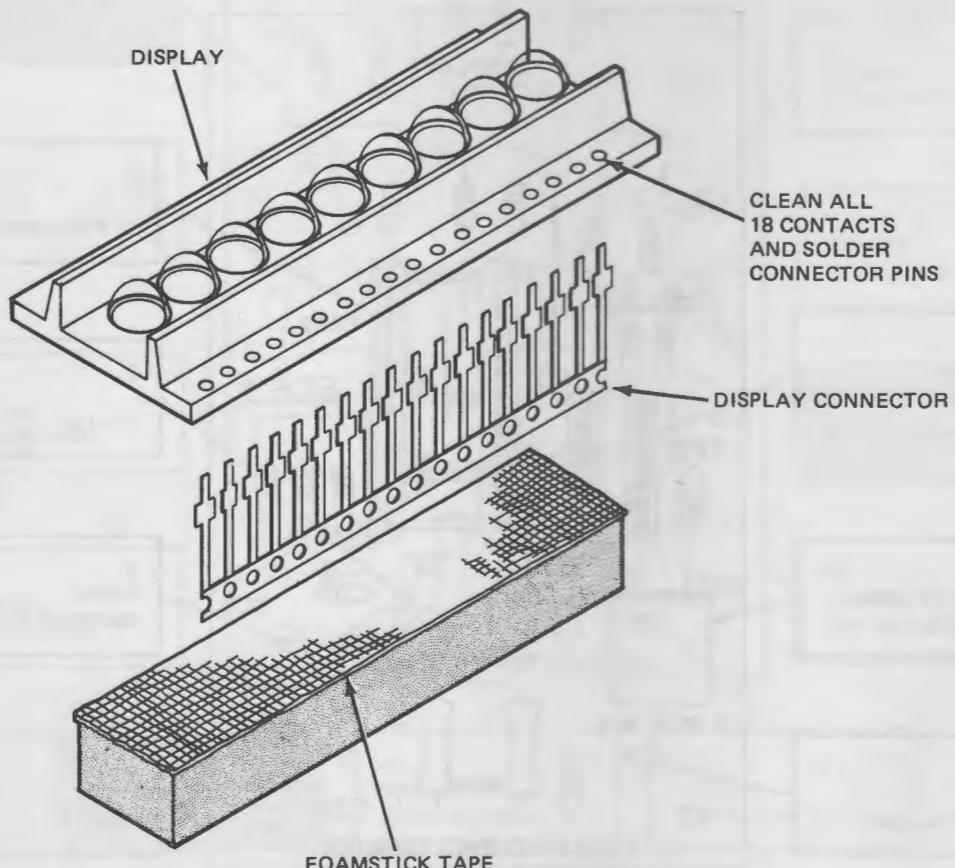

Fig. 5. Preassembling the display.
(2) Locate the six-digit, seven-segment display. Notice that there are 18 holes in the small circuit board on which the display is mounted, and that there is a gold plating around each of the holes. Clean the plated area on the side of the circuit board on which the display is mounted by rubbing with a soft pencil eraser. The metal should be bright and shiny when it is properly cleaned ..... ( )
(3) Now refer to Fig. 5 and insert the 18 pins of the 18-pin connector into the display circuit board. Making sure that the pins are at right angles to the circuit board, solder all 18 pins to the display ..... ( )
(4) Locate the length of foamstick tape and remove the paper backing from the adhesive side of the tape and install the tape just behind the 18-pin connector as shown in Fig. 5. Cut off any excess tape from the end of the display ..... ( )
(5) Finally, grasp the remaining carrier at the end of the 18 pins with your longnose pliers and break the carrier off, leaving the pins separated ..... ( )